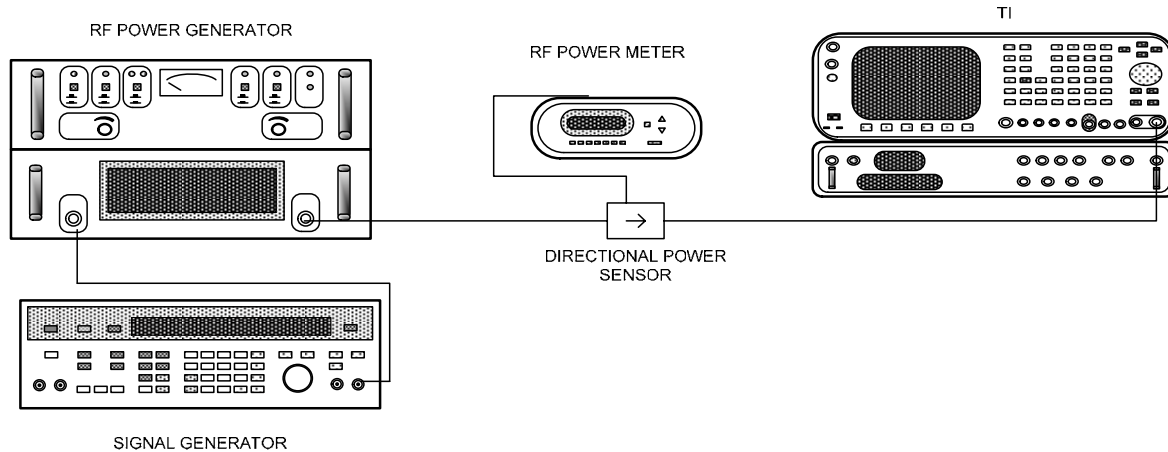

Figure 7. Power meter setup (1W - 200W range).
(11) Reduce signal generator and RF power amplifier outputs to minimum and disconnect equipment setup.
(12) Connect equipment as shown in figure 7.
(18) Connect equipment as shown in figure 7.
(28) Adjust signal generator frequency to 85 MHz. Adjust signal generator and RF power amplifier output until measuring receiver indicates exactly 33 dB minus 10 dB attenuator (fixed) test report value.
(29) Disconnect RF power amplifier and 10 dB attenuator (fixed) from measuring receiver. Connect RF power amplifier **OUTPUT** to TI **T/R** using 10 dB attenuator (fixed).
(30) Press **Range (F1)** key repeatedly to select **2 W** range, and press **DATA ENTRY ENTER** key.
(31) Press key sequence listed in (a) through (e) below:
(32) Press **Range (F1)** (power meter range mode) repeatedly to select **200 W** range and press **DATA ENTRY ENTER** (200 W range) key.
(33) Connect equipment as shown in figure 7.
(34) Adjust signal generator frequency to 200 MHz. Adjust signal generator and RF power amplifier output to 50W.
(35) Press key sequence listed in (a) through (f) below:
(36) Press **MODE RF GEN** (MODE RF GEN Display); when prompted for backup data, press **SHIFT** and **Y** keys (Backup Cal Data ? y/n).
(37) Disconnect all test equipment.